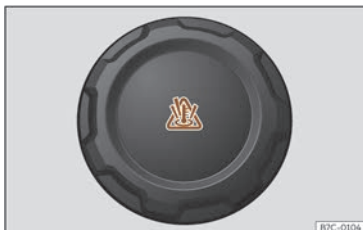

Fig. 202 Front compartment: coolant expansion tank cap.
- The motor coolant expansion tank can be recognised by the symbol on the cap ⚠ >>> **Fig. 202**